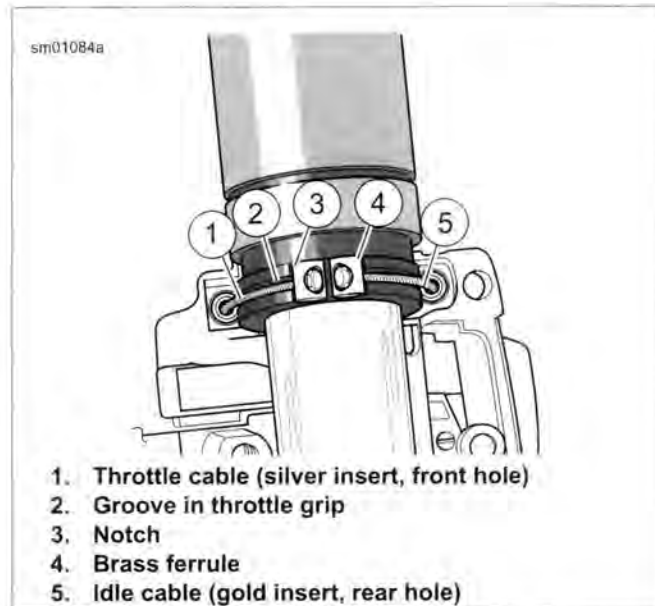

Figure 7-107. Throttle Cable Attachment
7. See Figure 7-107. Remove the brass ferrules (4) from the notches on the inboard side of the throttle control grip. Remove the ferrules from the cable end fittings.
6. See Figure 7-107. Position lower module housing beneath the throttle control grip. Install the brass ferrules (4) onto the cable so that the end fittings seat in the ferrule recess. Seat the ferrules in their respective notches (3) on the throttle control grip. Verify that the cables are captured in the grooves (2) molded into the grip.